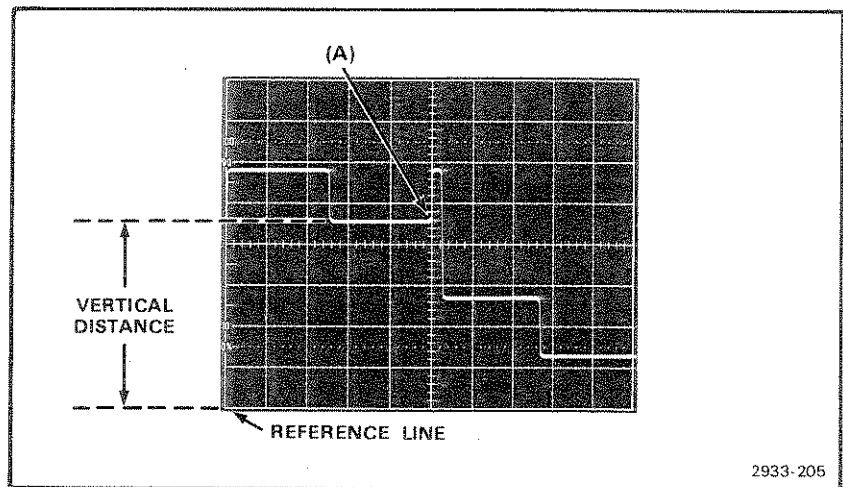

Figure 3-2. Measuring instantaneous dc voltage with respect to a reference voltage.
4. Measure the distance in divisions between the reference line and the point on the waveform at which the dc level is to be measured. For example, in Figure 3-2 the measurement is made between the reference line and point A.